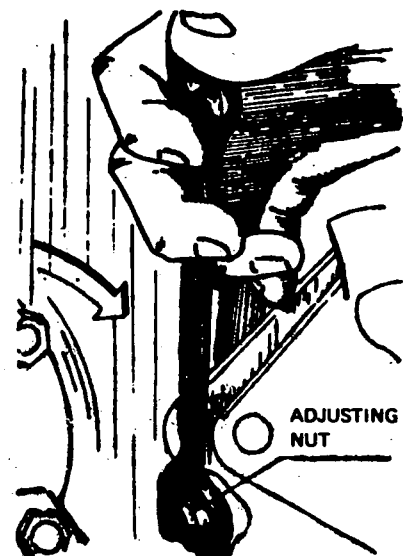

Fig. 2
- b) Adjust by turning the nuts to increase or decrease the travel (Fig. 2).